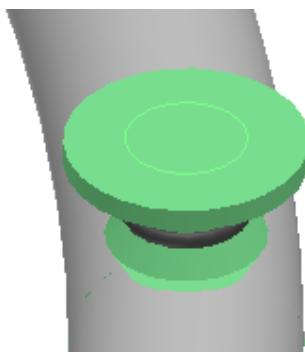

Figure 11. 26: Finshished View of Flange on Weldolet
22. Insert a Flange on the other weldolet. After inserting the Flanges, the configuration should look like Figure 11. 27: